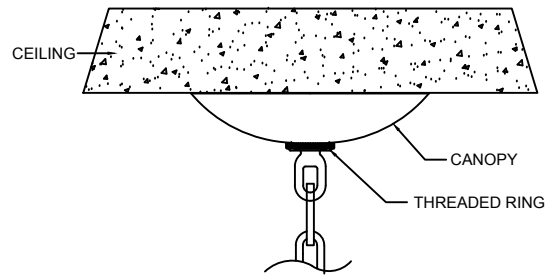

FIGURE-04
11. Slide the canopy up the chain and fasten using the threaded ring to the ceiling. (See Figure-04)